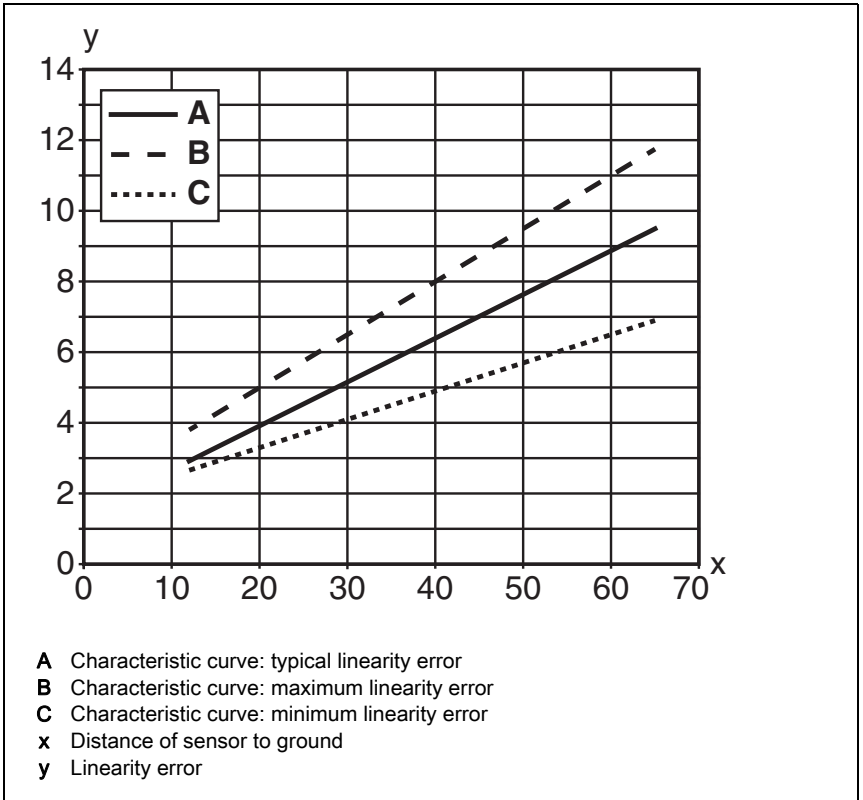

Figure 11.6: Linearity error as a function of distance between sensor and ground
- The linearity error (see figure 11.6).